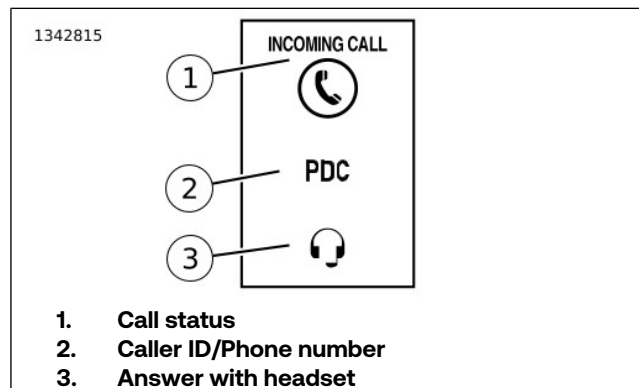

Figure 46. Phone Widget
See Figure 46. The phone widget displays current call status (1), caller ID or phone number (2), and answer with headset icon (3) (If connected to a supported phone).